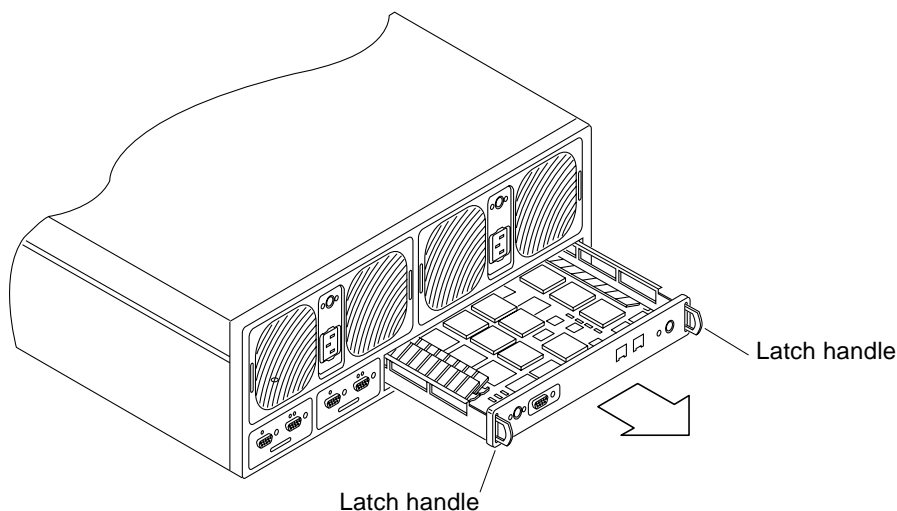

FIGURE 5-8 Removing the Controller Card
5. Unlock the controller card by pushing in on the latch handles (FIGURE 5-8).